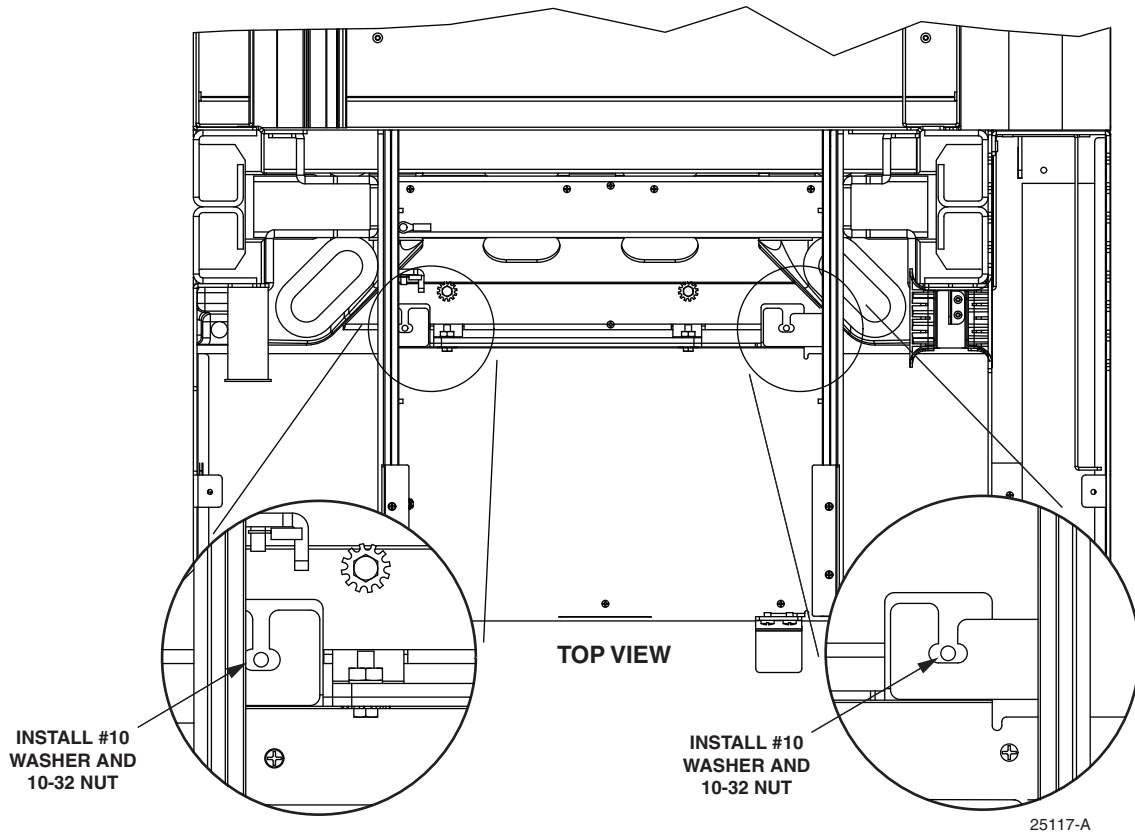

Figure 6. Securing Back Support Legs
4. With the chassis slides fully extended, install a #10 washer and a 10-32 nut on each of the threaded studs shown in Figure 6 to secure the chassis lower support legs to the guard box (two places). Tighten to 16 inch-pounds (1.8 Newton meters).